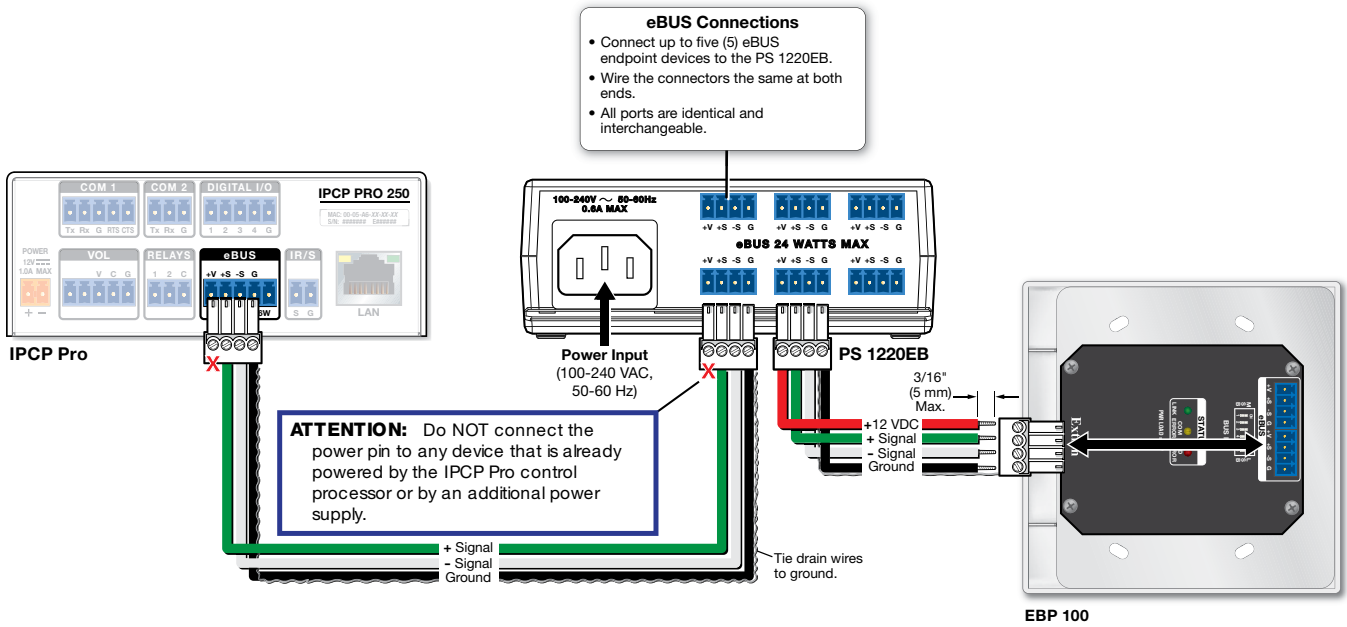
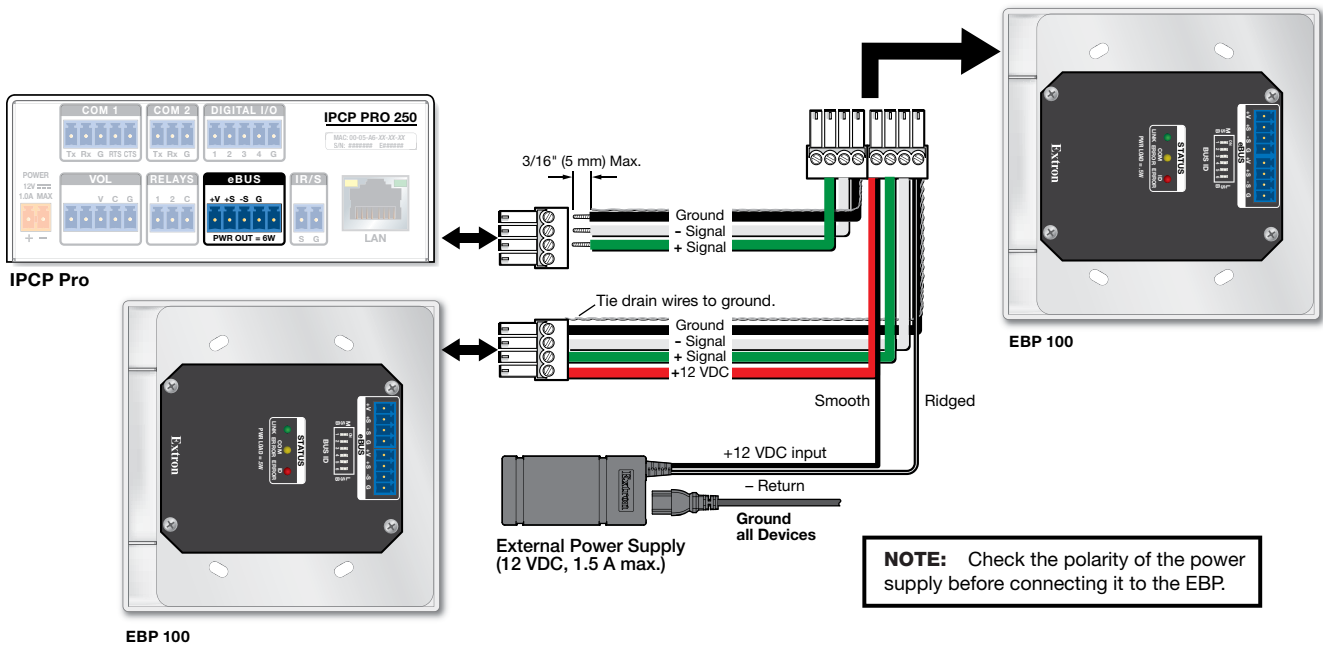

Figure 7. Cabling an eBUS System with a PS 1220EB Power Supply and Distribution Hub
Figure 8. Cabling EBP Panels with an Extron Power Supply
- Do NOT power an EBP from more than one power source. Power is provided by the IPCP Pro. If additional power is required, use a PS 1220EB power supply and distribution hub, or an Extron 12 VDC power supply. If more than one power source is used in a system, make sure that the devices powered by the first source are isolated from the devices powered by the second source by disconnecting the +V pin appropriately (see figure 7 on page 9).
EBPs that are relatively far from the control processor (see the *eBUS Technology Reference Guide* at www.extron.com for details) can be connected to an optional Extron PS 1220EB eBUS power inserter (see figure 7), or an Extron 12 VDC desktop power supply (see figure 8).